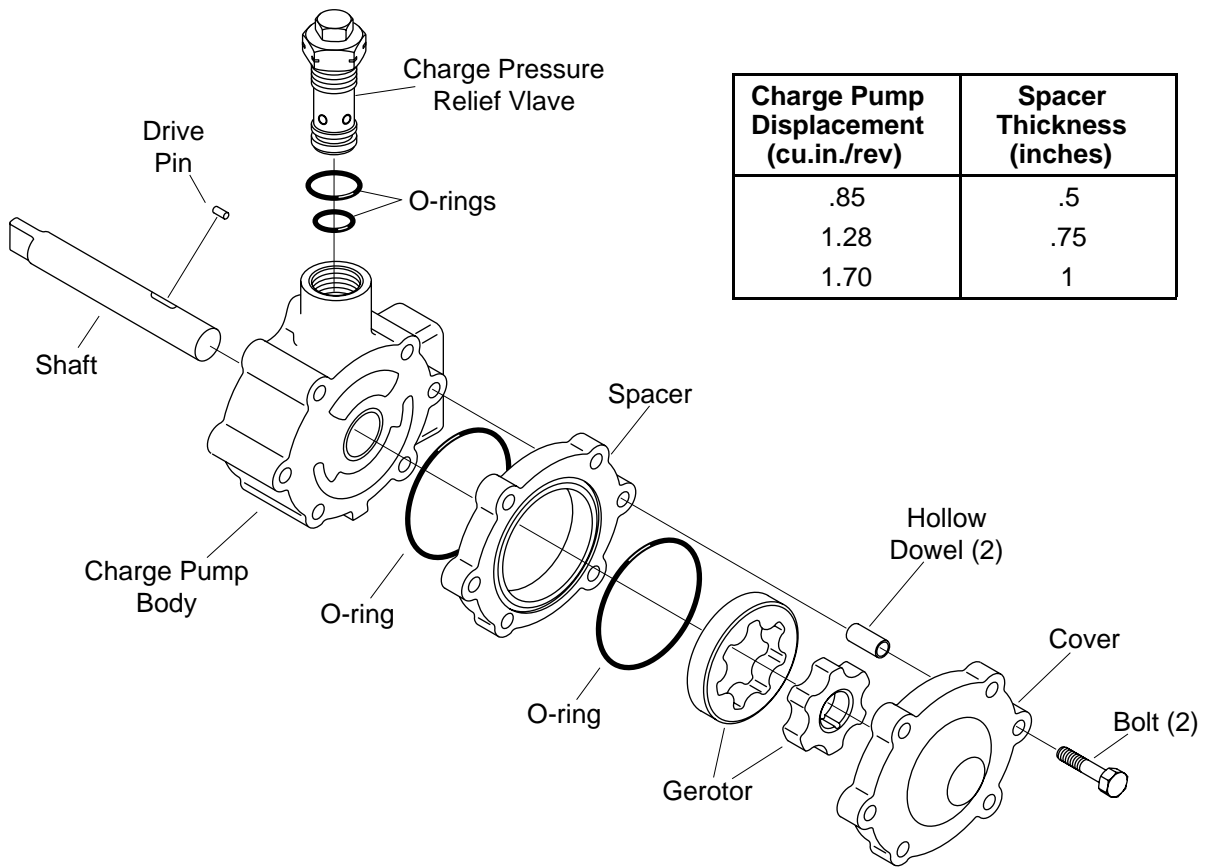

Figure 33
Disassemble the charge pump by removing the two bolts that hold it together, as shown in figure 33.
**Note:** Figures 33 and 34 show a standard charge pump. The repair procedures given here apply to optional charge pumps too.